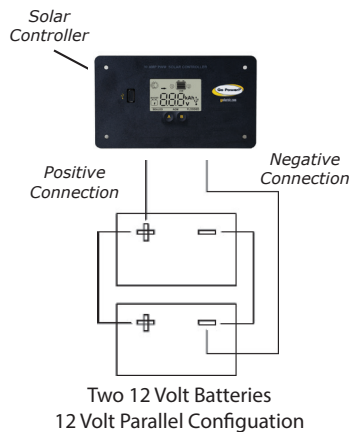

Figure 5
2. Parallel 12 Volt battery connection (See Figure 5)